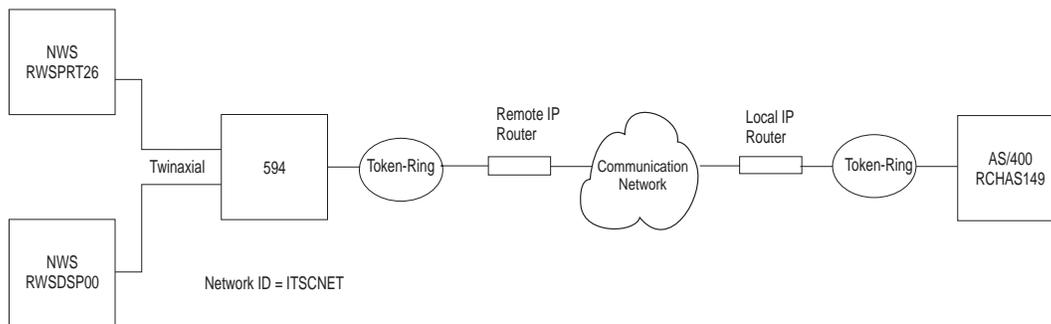

Fig. 21: AS/400 TCP/IP Token-Ring configuration
- Fig. 21: AS/400 TCP/IP Token-Ring configuration 12